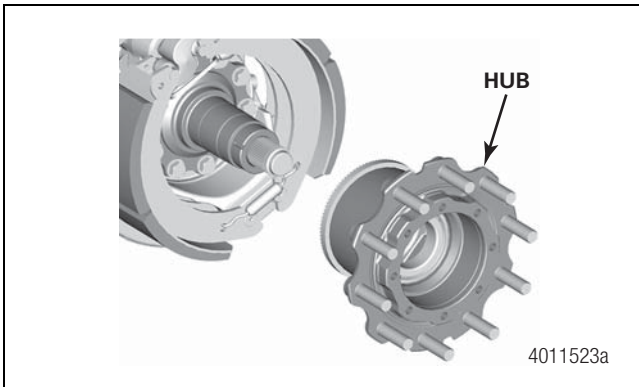

Figure 7.17
3. Install the hub assembly onto the spindle. Be careful the oil seal is not damaged during installation. Press the hub until the inner bearing is flat against the face of the spindle. Figure 7.17.